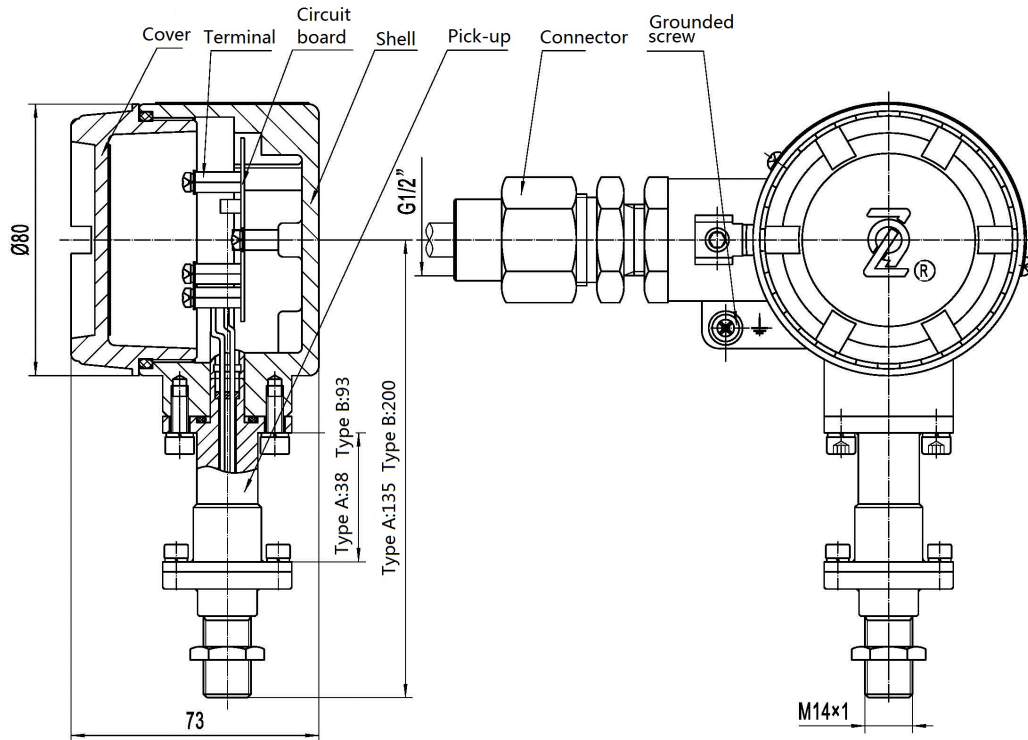

Fig.1 LWF-11A (B)/ P Structure
- (4) Working Temperature:
- (5) Dimensions: see Fig.1
- (6) Weight:
- (7) Explosion-Proof:
Amplifier structure is as shown on Fig.1.
1) Dimensions (see Fig.1 and Table 1)
Refer to Fig.1, mounting it on the Turbine Body by Thread connecting of  $M14 \times 1$ ;
Refer to Fig.1, loosening the Lock; opening the Cover; penetrating the signal wire into the connector Wash-Seal-Ring; connecting the signal wire on terminals as per the wiring diagram attached to the cover; also connecting the cable shield to the GND terminal; Connecting the Housing "Grounded Screw" to the Ground ( $\perp$ ) finally.